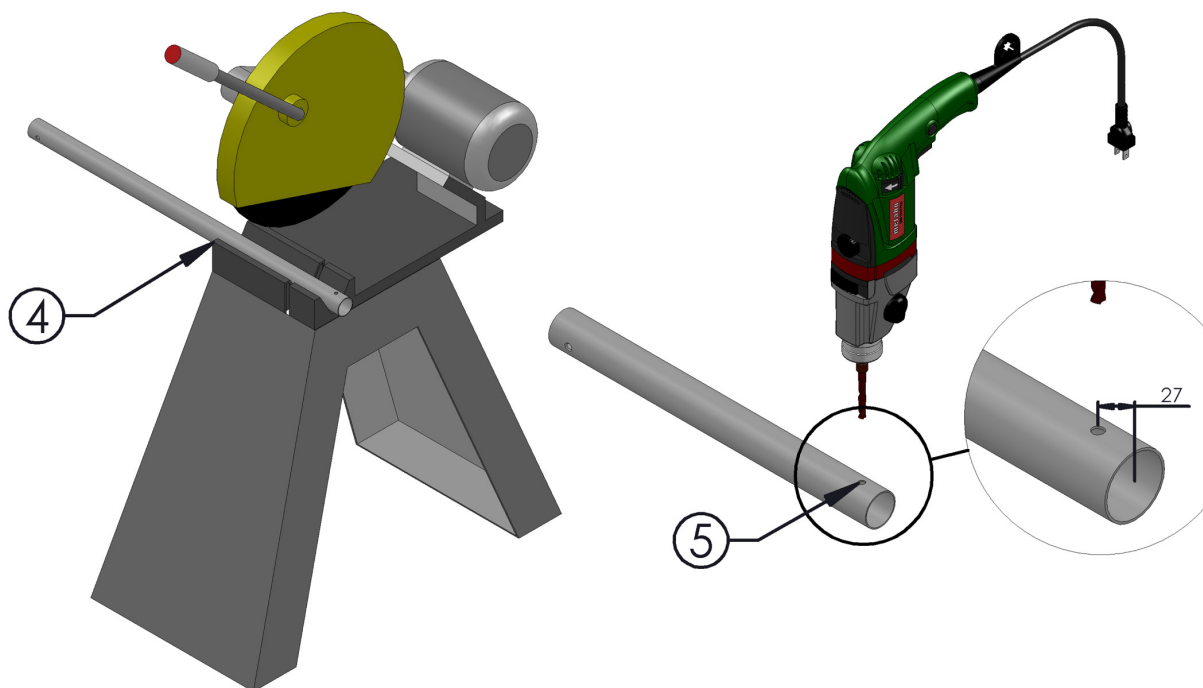

Fig. 5.0
5. Measure, and drill 10mm through-hole for the locking bolt, as shown in Fig. 5.0.